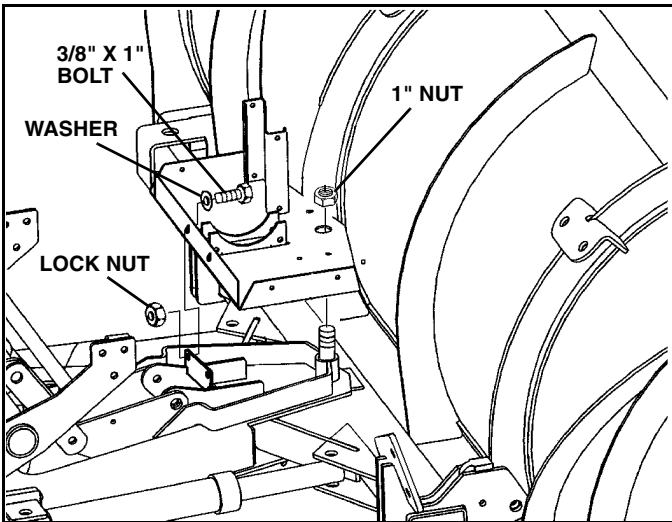

Figure 1-12
26. Remove 1" nut from swing pin, slide pump platform over swing pin and replace nut. (See Figure 1-12).
28. Install 3/8" x 1" bolts, washers and self-locking nuts through holes in back of pump platform and into bracket on A-frame. (See Figure 1-12).